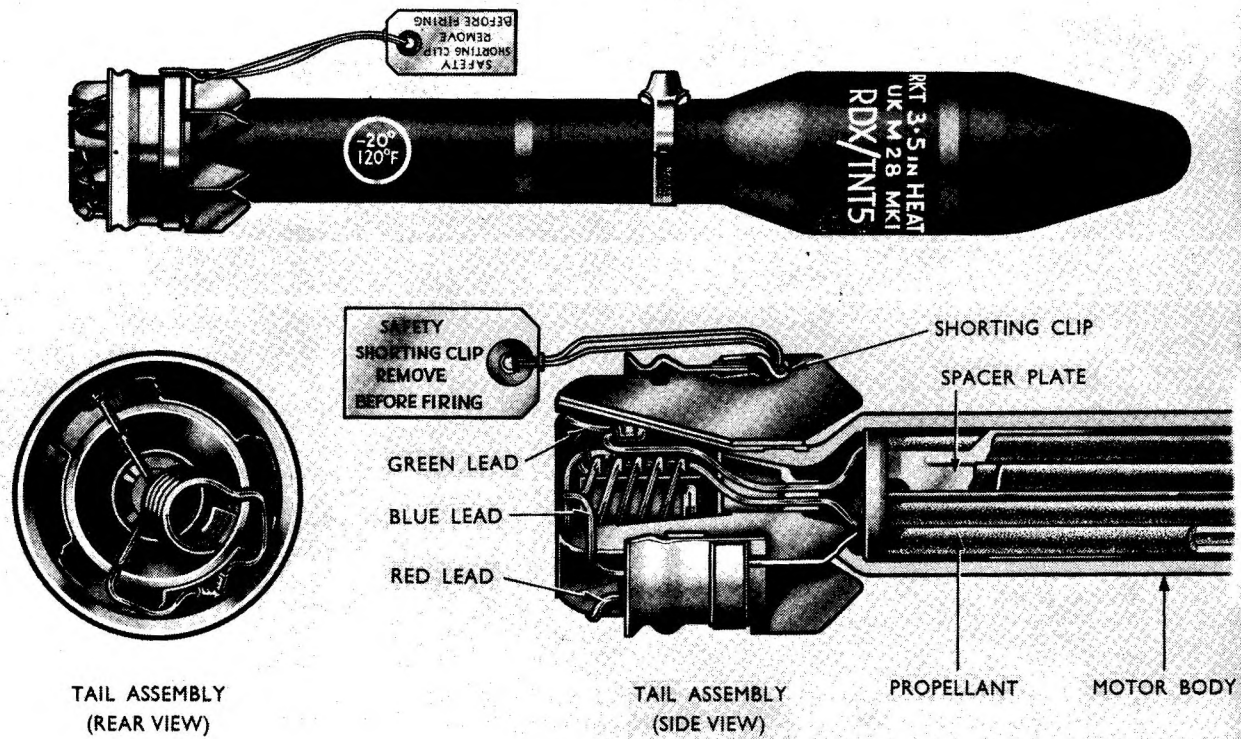

Fig. 14 Rocket, H.E.A.T. 3.5 Inch
The rocket is issued assembled and is loaded into the launcher as a unit. It consists of a rocket head, a fuze and a motor, to the rear of which the tail assembly is attached. The complete rocket is shown at Figs. 14 and 15.
28.0. The tail assembly (Fig.17) consists of an expansion cone which is fitted to the motor tube at the nozzle, three double-bladed fins which are welded to the outside, and a band built up of three rings which encircles the fins. The innermost ring, is an aluminium support ring; the outer, a narrow copper contact ring, and separating the two is a ring of insulating material. The support ring is grooved to provide a seating for the blade of the contact latch and is not painted. When issued, the rocket is provided with a shorting clip which fits over the unpainted section at the front of the aluminium support ring and forms a connection between the aluminium support ring and the copper contact ring (Fig.14). This clip should always be in position when the rocket is stored or transported and is removed when the rocket is prepared for loading. Secured to the clip is a label marked "Safety shorting clip. Remove before firing."